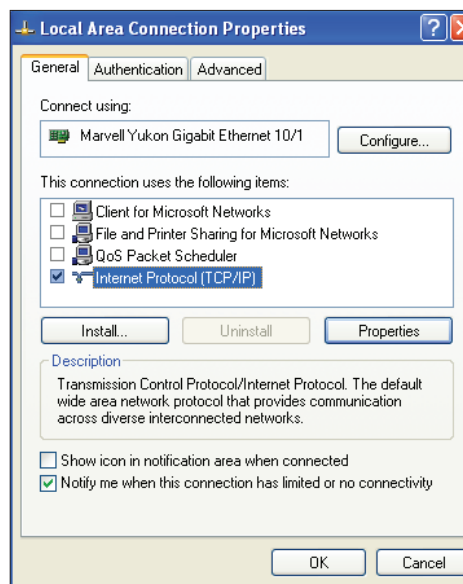

Figure 31: Local Area Connection Properties Window
5. As shown in **Figure 31**, in the Connection Items list box, be sure the **Internet Protocol (TCP/IP)** is checked. Select the **Internet Protocol (TCP/IP)** item to highlight it and then click **<Properties>**. The *Internet Protocol Properties Window* will appear.
6. Choose **Internet Protocol Version 4 (TCP/IPv4)** by highlighting it and then click **<Properties>**. The *Internet Protocol Properties Window* will appear (**Figure 31, page 18**).